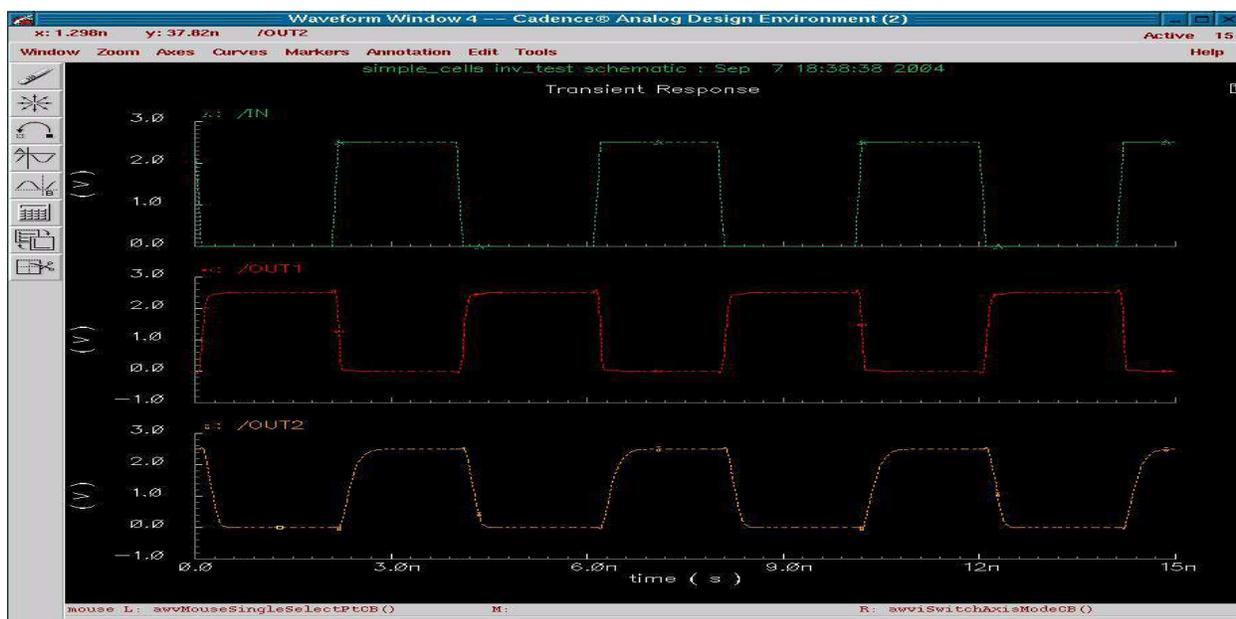

Figure 3: Voltage output waveforms from the inverter testbench.
22. If everything goes well, a window titled Waveform Window should pop up showing the three overlapping waveforms IN, OUT1 and OUT2. Maximize this window, then click the Switch Axis Mode button in the toolbar (second from the bottom). This should show the three waveforms on different axes and should look similar to Figure 3. (Ordering is unimportant)